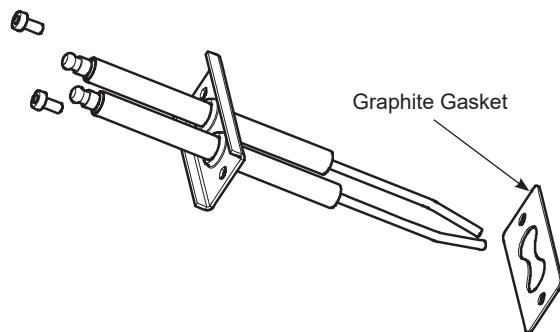

Figure 34: Ignition Electrode Assembly
- e. Install igniter as shown in Figure 34.